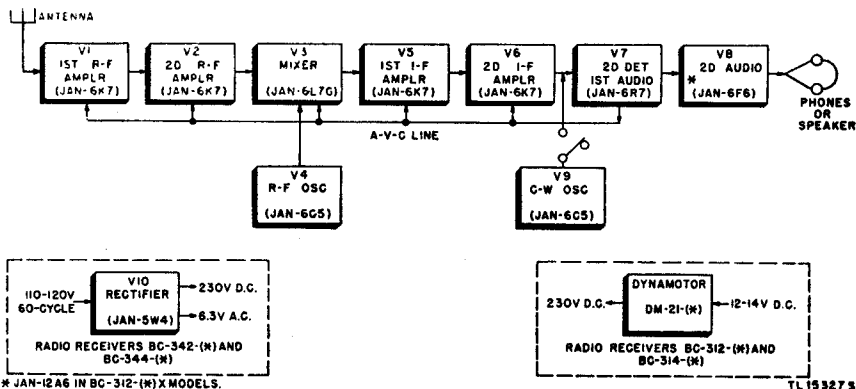

Figure 17. Receiver simplified block diagram.
a. RADIO RECEIVERS BC-312-(*), BC-342-(*), BC-314-(*), and BC-344-(*) are similar in design with the exception of their frequency coverage and supply voltage. A simplified block diagram of the receivers is given in figure 17. The received signal from the antenna is applied to the first r-f amplifier stage, V1, where it is amplified before being fed to the second r-f amplifier stage, V2. The two r-f amplifier stages each use a Tube JAN-6K7 high-gain pentode to provide a high degree of selectivity and sensitivity while rejecting interfering signals at intermediate or image frequencies. The amplified r-f signal is then applied to the mixer or converter stage, V3, along with the output of the r-f oscillator stage, V4. The r-f oscillator signal beats against the
d. Two sources of plate voltage are provided for the receiver circuits. (See fig. 17.) Radio Receivers BC-312-(*) and BC-314-(*) are designed for operation from a battery source and are equipped with a dynamotor to convert the 12- to 14-volt battery supply into 230 volts direct current. Radio Receivers BC-342-(*) and BC-344-(*) are designed for operation from a 110- to 120-volt, a-c supply and are equipped with a vacuum tube rectifier, V10, to convert the a-c supply voltage into direct current for operation of the receiver circuits.